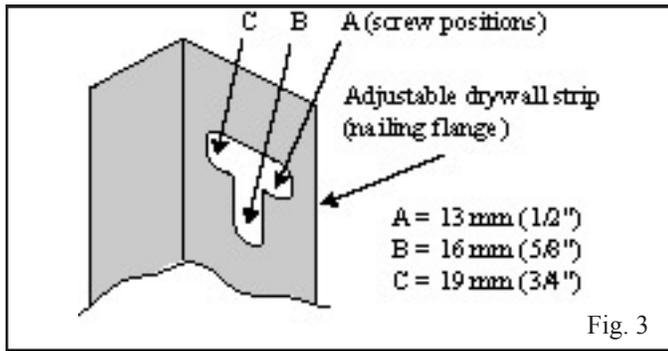

Fig. 3
- 4 Attach the fireplace to the frame using the adjustable frame drywall strips (located behind the access door for shipping). Preset the depth to suit the facing material of the wall. The strips are adjustable to 1/2" (13 mm), 5/8" (16 mm) or 3/4" (19 mm), Fig. 3 & 4